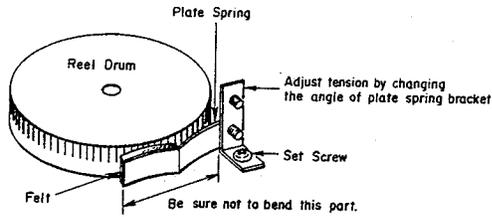

Fig. 8
- (b) Adjust tension by changing the angle of Plate Spring Bracket (See Fig. 8).